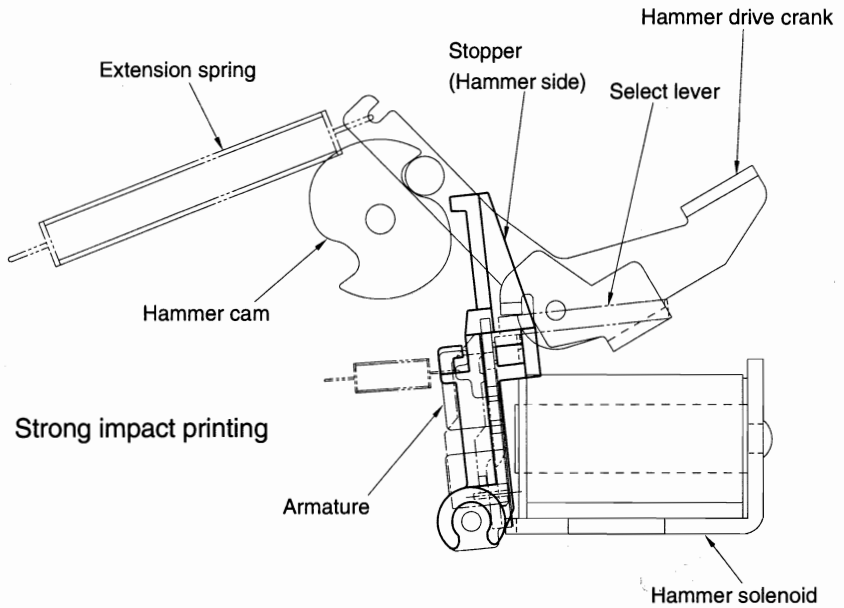
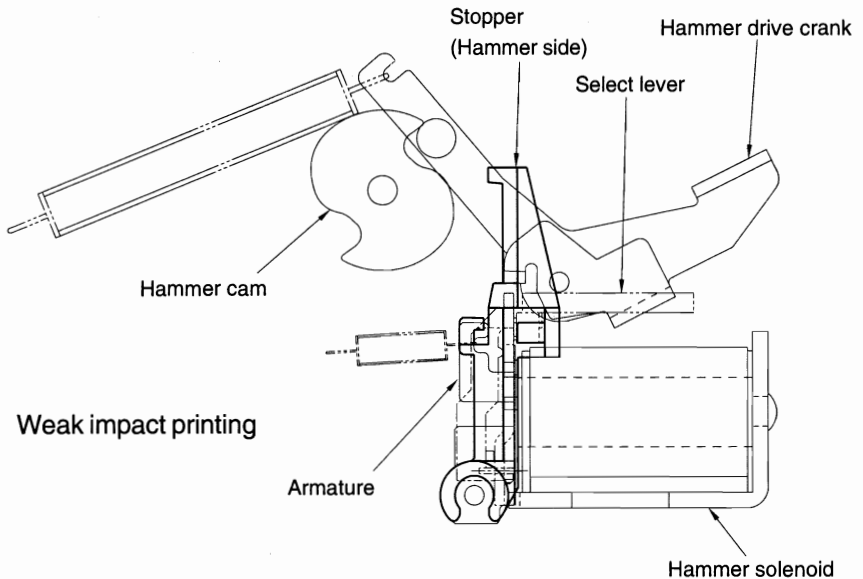

Fig. 1.3
Fig. 1.4
- (2) The hammer cam consists of a print hammer striking cam and a ribbon feed part. The print hammer striking cam has two levels of displacement. The hammer drive crank is pushed against the surface of the print hammer striking cam by extension spring and makes back and forth movements as the cam rotates.
When the hammer drive crank rides the low of the hammer striking cam, the hammer drive crank kicks up the print hammer by the extension spring force and moves the print hammer toward the platen. The impact force of the print hammer is provided with two levels which change according to the size of the character printed. When the character is large, it is printed by the drives mentioned in (1) and (2). (Fig. 1.3) When the character is small, the energized state of the hammer solenoid in the first stage (mentioned in (1)) is maintained. Since the hammer drive crank is stopped by the stopper which is interlocked with the armature, the print hammer is driven only by the spring force of the crank stroke so that the print impression is weak. (Fig. 1.4) Then, the hammer solenoid is unenergized, and the armature and the stopper will return to the original positions.